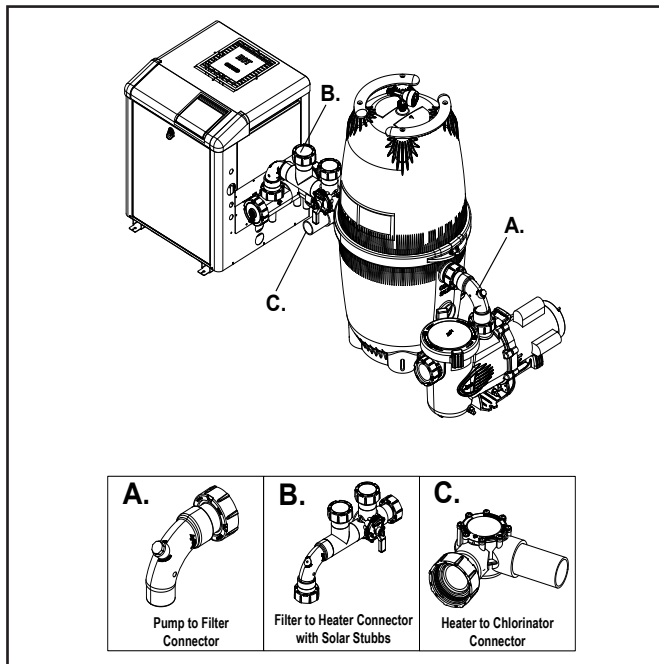

Figure 2. CV Solar Equipment Pad
3. Connect the pump to the suction lines (pool only or pool/spa combo) using CPVC cement and primer. The length of pipe into the suction port of the pump should be a minimum of four (4) times the pipe diameter.
4. Use CPVC cement and primer and connect the pump to the filter using the sweep elbow with the ½" NPT plug component of the kit, marked as "A" in figure 2. This positions the filter.
5. Use CPVC cement and primer and connect the filter to the heater using the provisional solar assembly component with union nuts on both ends, marked as "B" in figure 2. This positions the heater.
6. Attach the check valve (marked as "C" in figure 2) to the outlet of the heat pump making sure the flow arrow points in the correct direction.